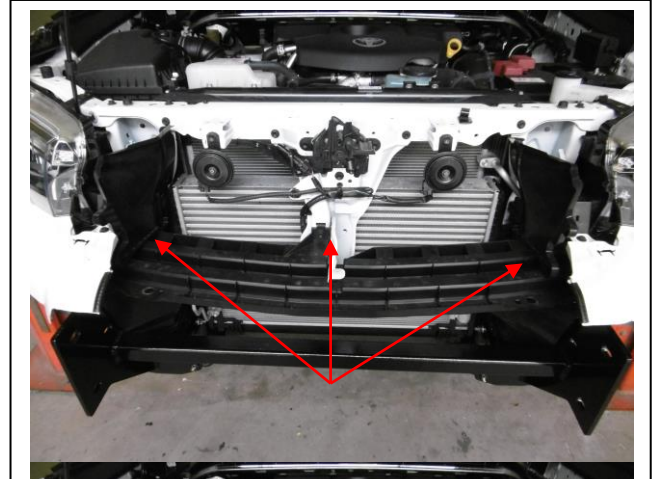

Figure 6. Trim air dam to fit around winch cradle
15. Mark and trim air dams to fit around steel mounts. **See figure 6.**